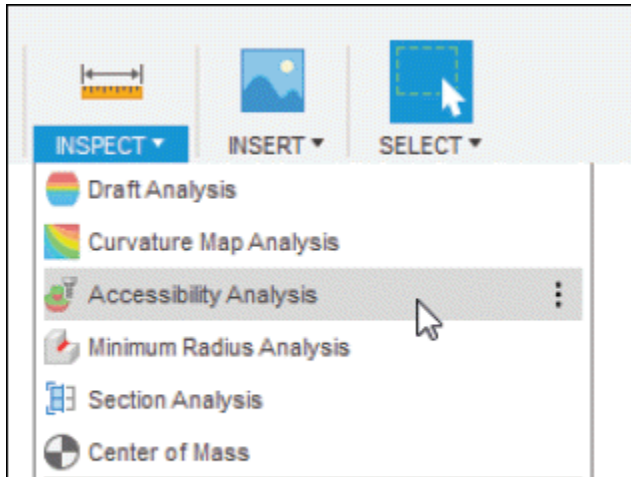
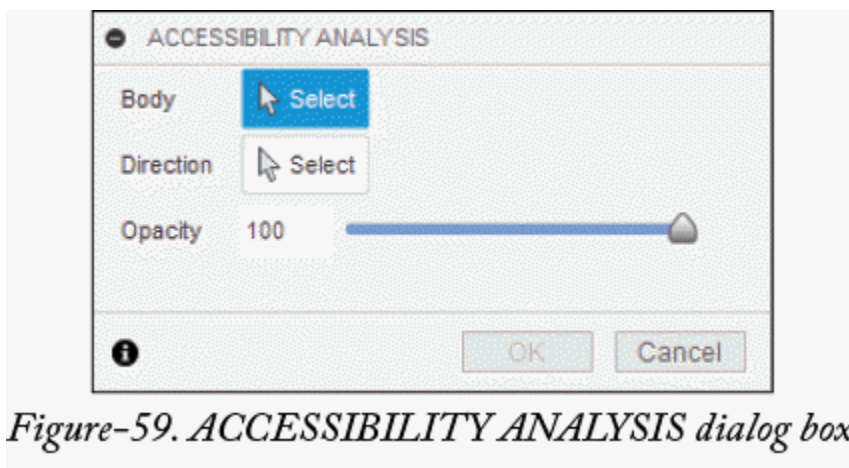

Figure-58. Accessibility Analysis tool
Figure-59. ACCESSIBILITY ANALYSIS dialog box
- Click on the **Accessibility Analysis** tool of **INSPECT** drop-down from **Toolbar**; refer to Figure-58. The **ACCESSIBILITY ANALYSIS** dialog box will be displayed; refer to Figure-59.